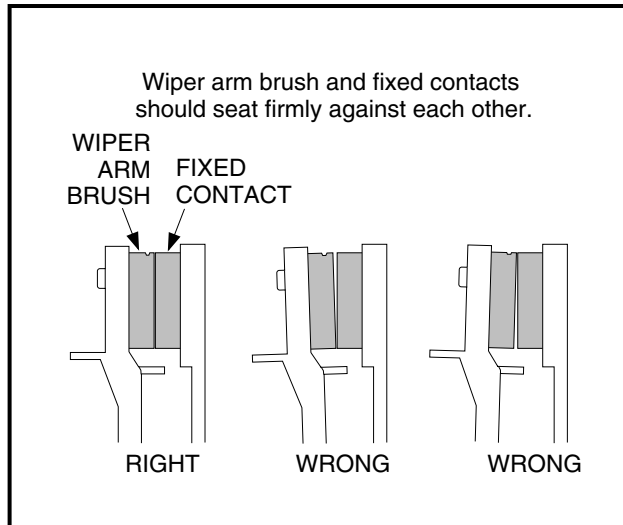

Figure 11-21 Wiper Arm Brush and Fixed Contacts
1. Remove the V-Glide wiper switch cover and observe the wiper arm brush as it moves across the fixed contacts. There should be sufficient spring pressure in the arm to keep the wiper arm brush firmly against each of the fixed contacts as it travels across them. There should also be proper surface contact between the brush and each of the fixed contacts as shown (**Figure 11-21, Page 11-17**).